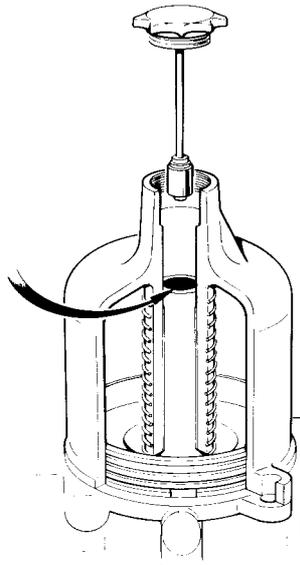

Fig. B23. Removal of the carburettor damper piston
- The right side carburetter can now be bolted into position and the fast idle rod clipped in place on the butterfly fast idle lever. (Fig B23).